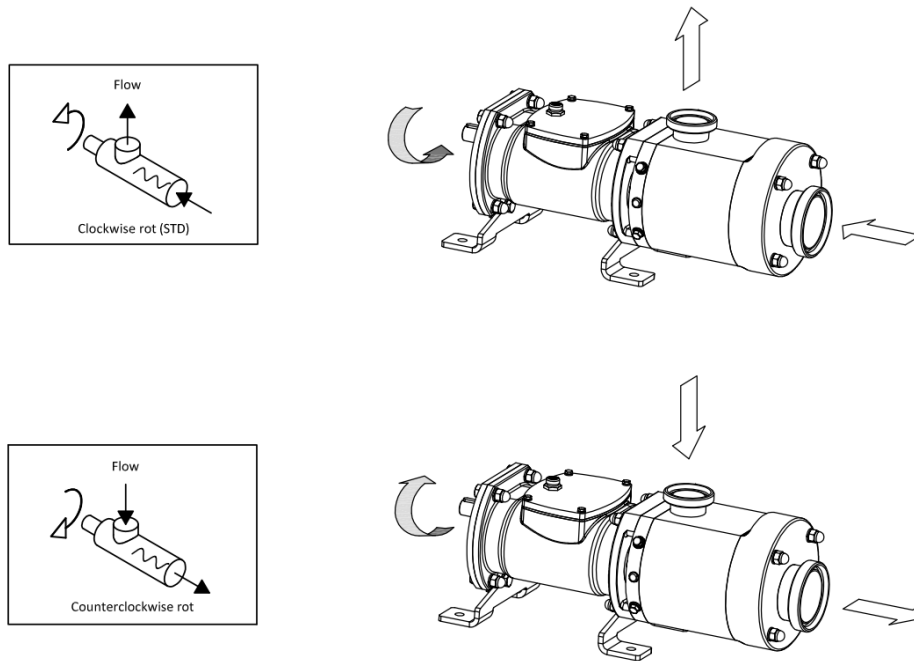

Fig.9 – Pump rotation direction
The rotation direction determines the fluid flow direction (**Fig.9**).
- check the fluid flow direction **Fig.9**;